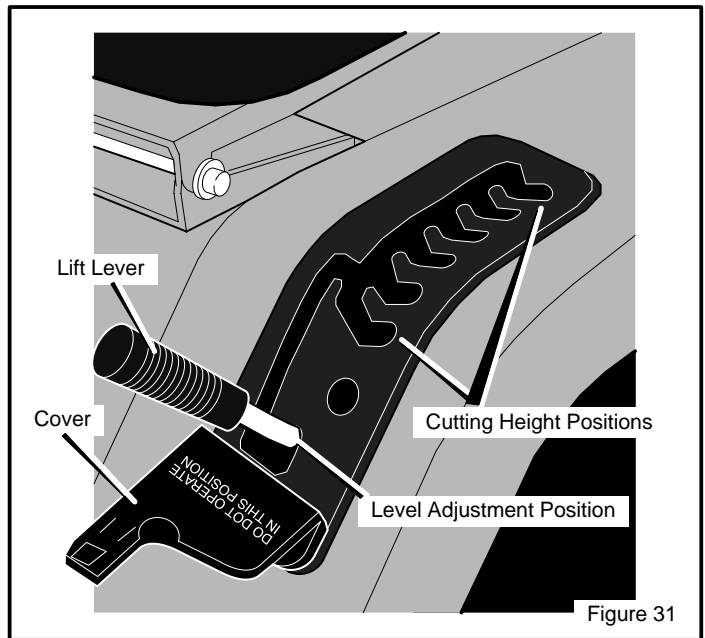

Figure 31
5. Move the **lift lever** to the LEVEL ADJUSTMENT position (Figure 31).